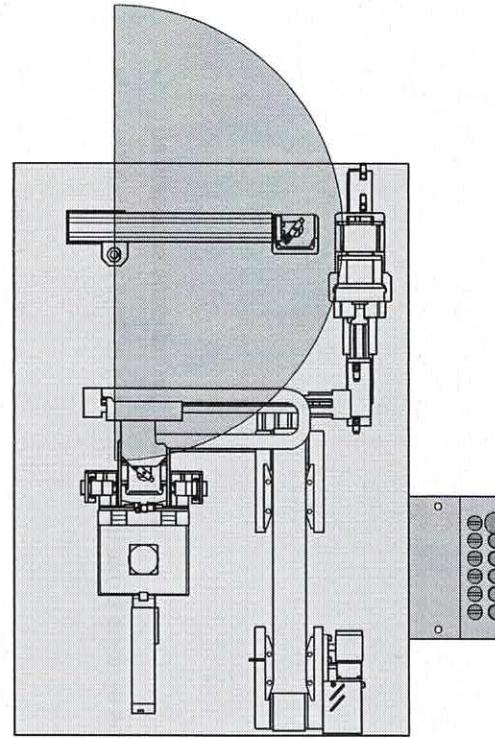
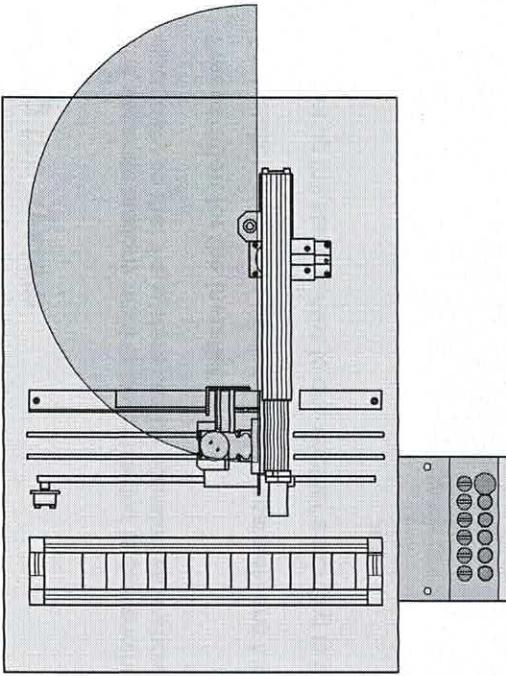

Fig. 5.3 Alignment of the handling device on the pneumatic press processing station
Fig. 5.4 Alignment of the handling device on the storage station
- Turn the arm of the handling device so that it is within the highlighted semi circle (⇒ fig. 5.3 and fig. 5.4).
- Turn the arm of the handling device so that it is within the highlighted semi circle (⇒ chapter 5.2, page 32, fig. 5.3 and fig. 5.4).